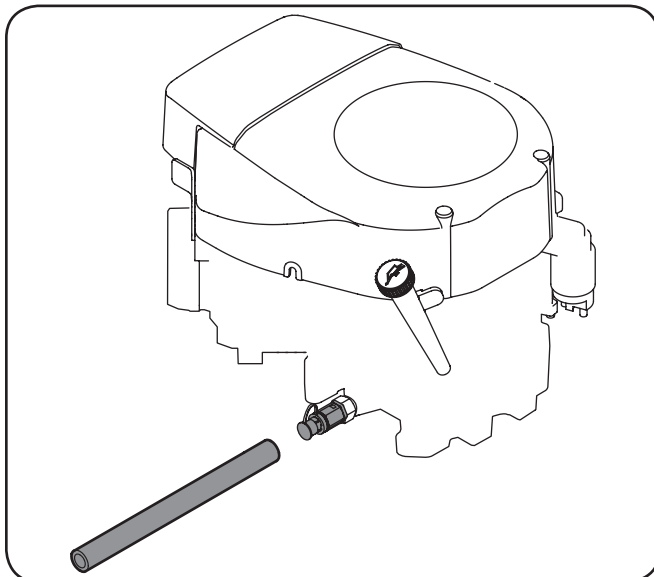

Figure 6-1
3. Pop open the protective cap on the end of the oil drain valve to expose the drain port. Refer to Figure 6-1. Remove the oil fill cap/dipstick from the oil fill tube.